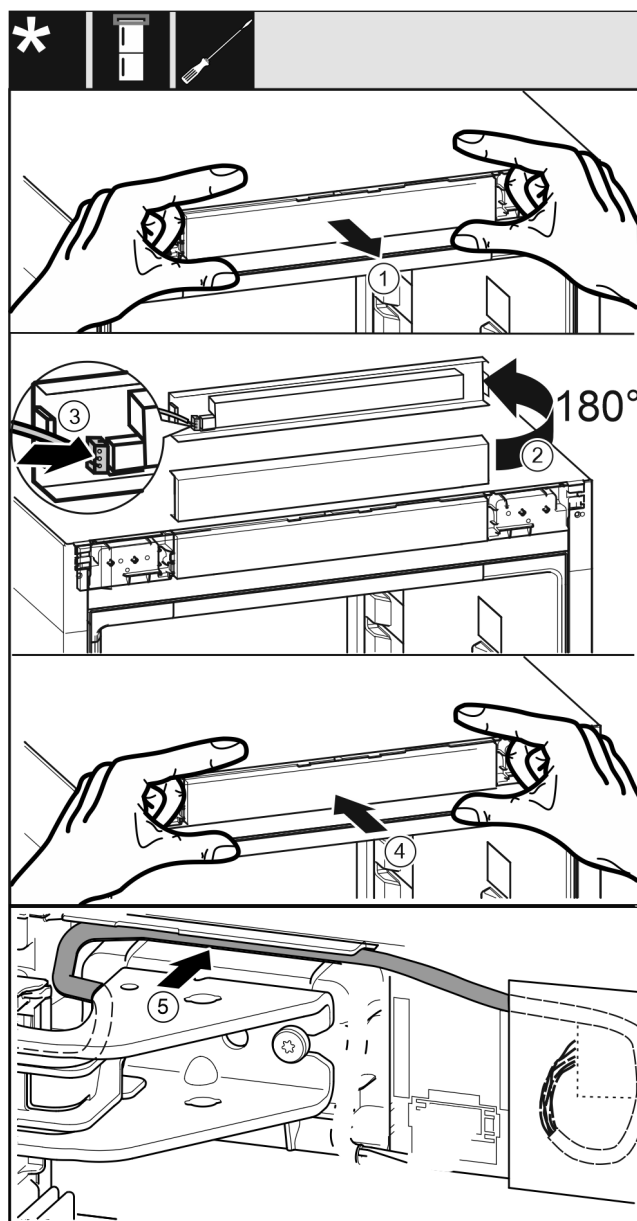

Fig. 39
- Remove the control panel trim Fig. 39 (1) carefully.
- Turn the control panel trim Fig. 39 (2) up by 180°.
- Engage the plug Fig. 39 (3) on the control panel trim.
- Re-engage the control panel trim Fig. 39 (4) on the appliance.
- Lay the cable Fig. 39 (5) carefully in the guide above the top swap bearing block.